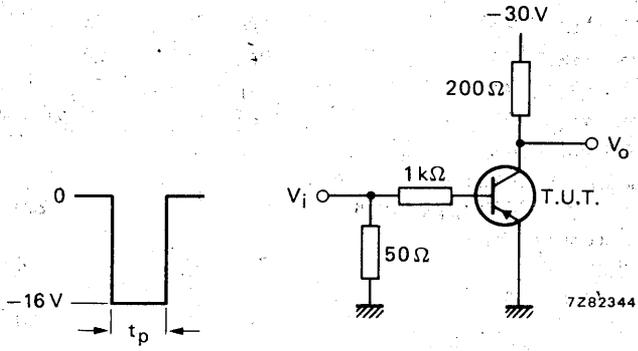
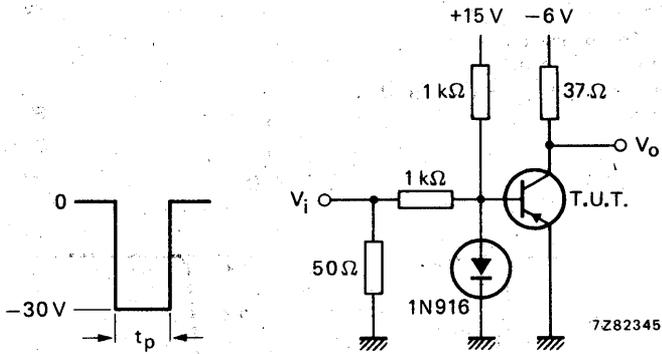

Fig. 3 Turn-on switching time test circuit.
Fig. 4 Turn-off switching time test circuit.
- $-I_C = 150 \text{ mA}; -I_B = 15 \text{ mA}$ ; (see Fig. 3)
to cut-off with  $+I_{BM} = 15 \text{ mA}$  (see Fig. 4)
Fig. 3 and Fig. 4